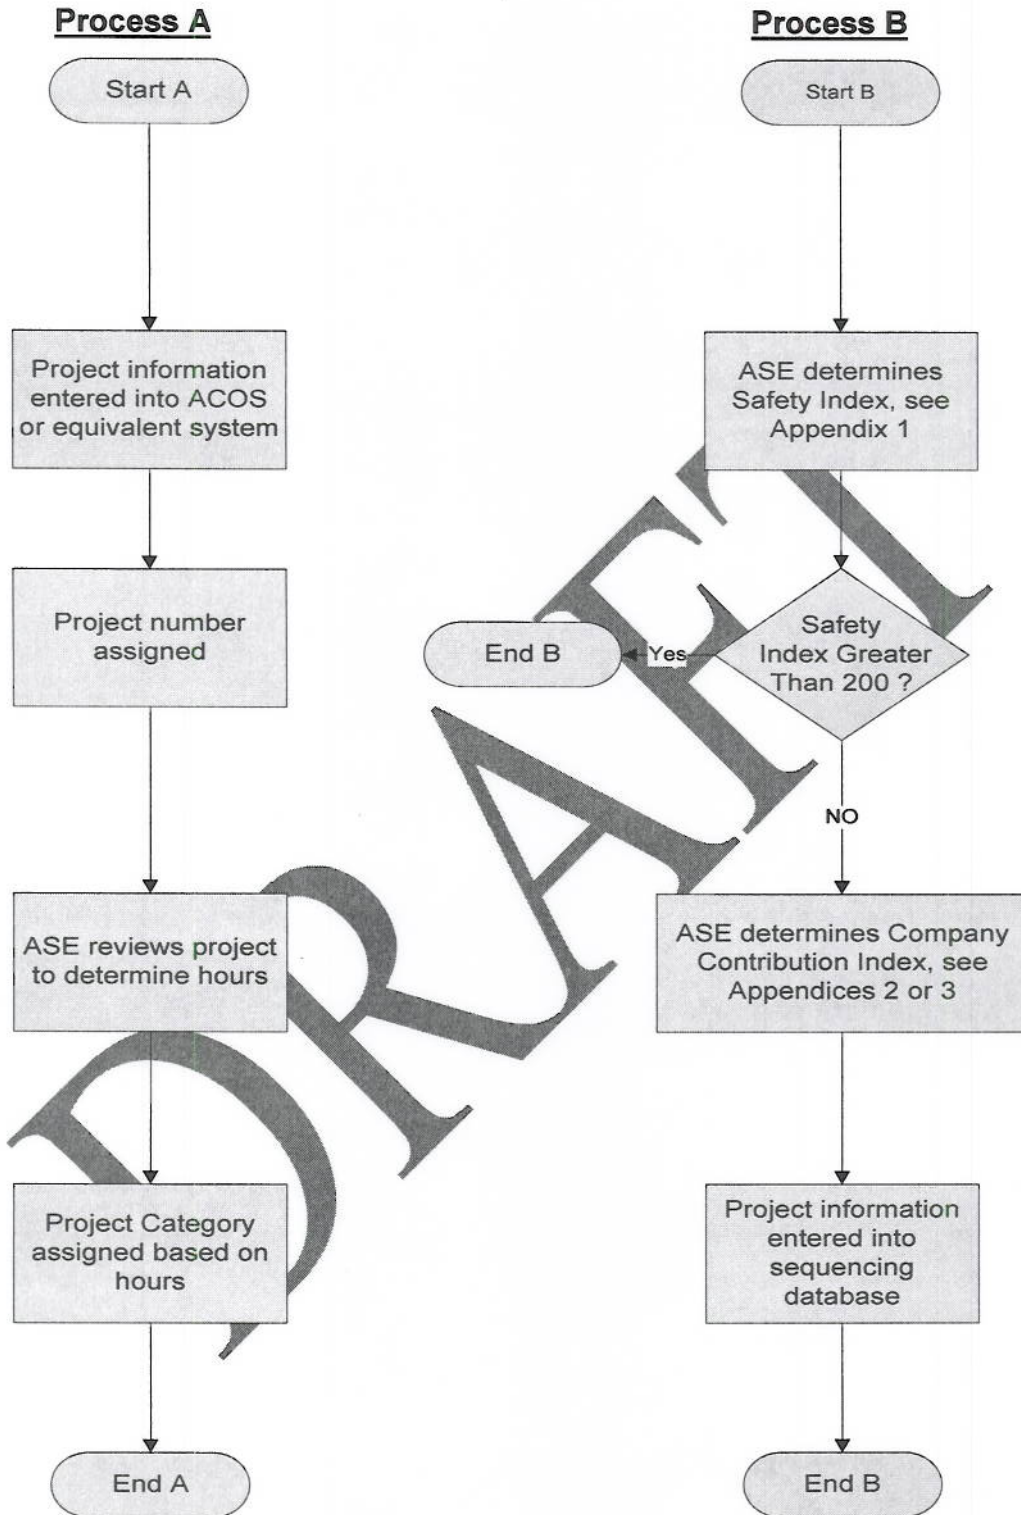

Figure 3 Certification/Validation Project Determination
- (2) The receiving organization determines the category of the project based on the anticipated amount of FAA certification time required to complete the project, see Figure 3, process A.
- (3) Projects that are Category 2 and above (more than 40 hours) are subject to the sequencing process. Category 1 projects are worked by the receiving organization without going through the sequencing process.
- (4) The receiving organization determines the Safety Index and Company Contribution Index, see Figure 3, process B.
- (5) The receiving organization enters the project information into the National Sequencing Database within two weeks of receipt. If the two week time line can not be met. Then an explanation for the delay needs to be included in the "ADDITIONAL FACTOR" field in the database.
- (6) The project information listed below is entered into the National Sequencing Database,